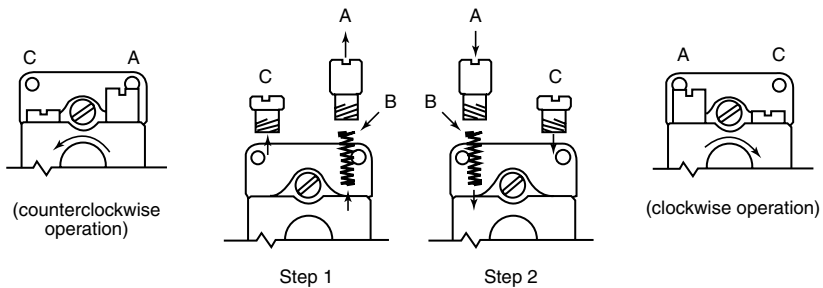

Figure 1: Reversing the Direction of Operation—Lever Type
Limit switches are factory set to operate in the counterclockwise direction. To reverse the direction of operation as shown in Figure 1, interchange the retaining screw (A) and the return spring (B) with the plug screw (C). Use care to ensure that the return spring (B) is always used with the spring retaining screw (A).